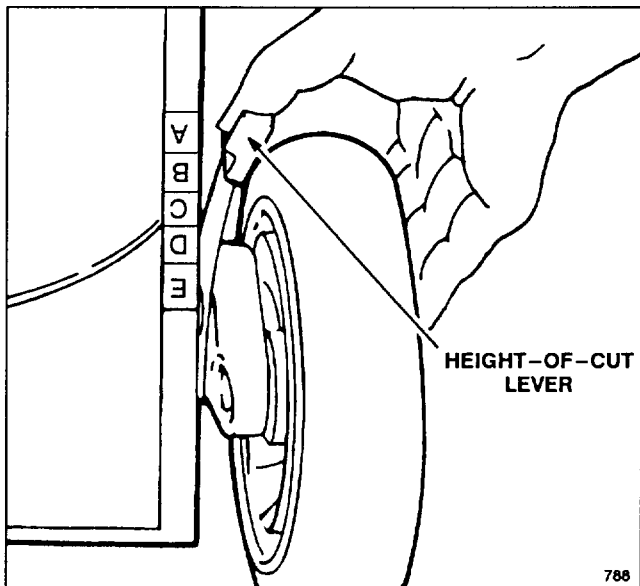

Figure 10
3. Squeeze the mower's height-of-cut lever toward the wheel and move it to the corresponding color/letter on the mower housing (Fig. 10). For easier adjustment, lift housing up so wheel is off ground. **Do not put fingers under housing when lifting.** Ensure pin on height-of-cut lever engages slot in housing. Adjust all wheels to the same color/letter setting.